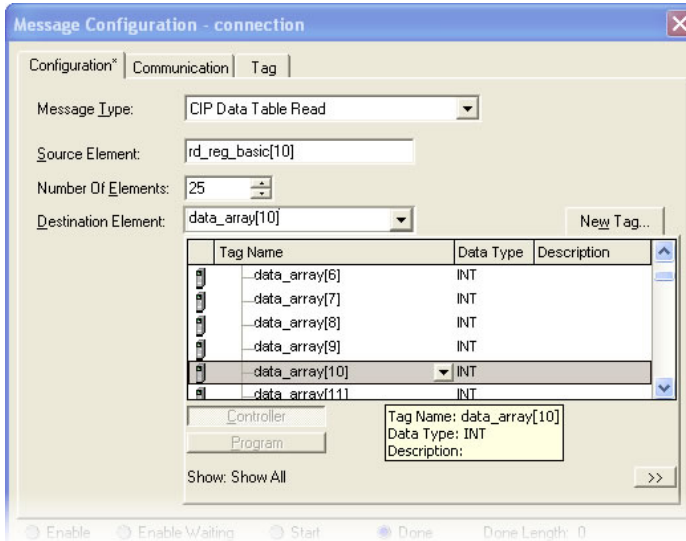

Figure 46: Selecting the Destination Element
- iv) For the Destination Element, either directly type in “data_array[10]”, or select element #10 in the data_array tag via the drop-down box (refer to Figure 46). The destination could be any offset in the data_array tag, as long as the offset plus the Number Of Elements (25) does not exceed the tag size (100).